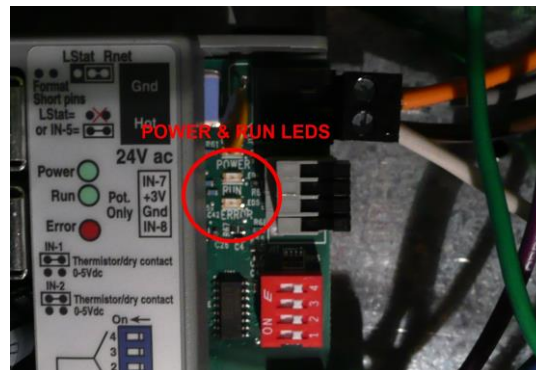

FIG. 4
2. Next provide power to the heater/controls unit by turning on the breaker. Confirm that the DDC controller has flashing lights in the upper right hand corner of the unit. A solid “power LED” indicates proper power supply and a blinking “run LED” indicates that the unit is functioning and running the program as expected. See Figure 4.